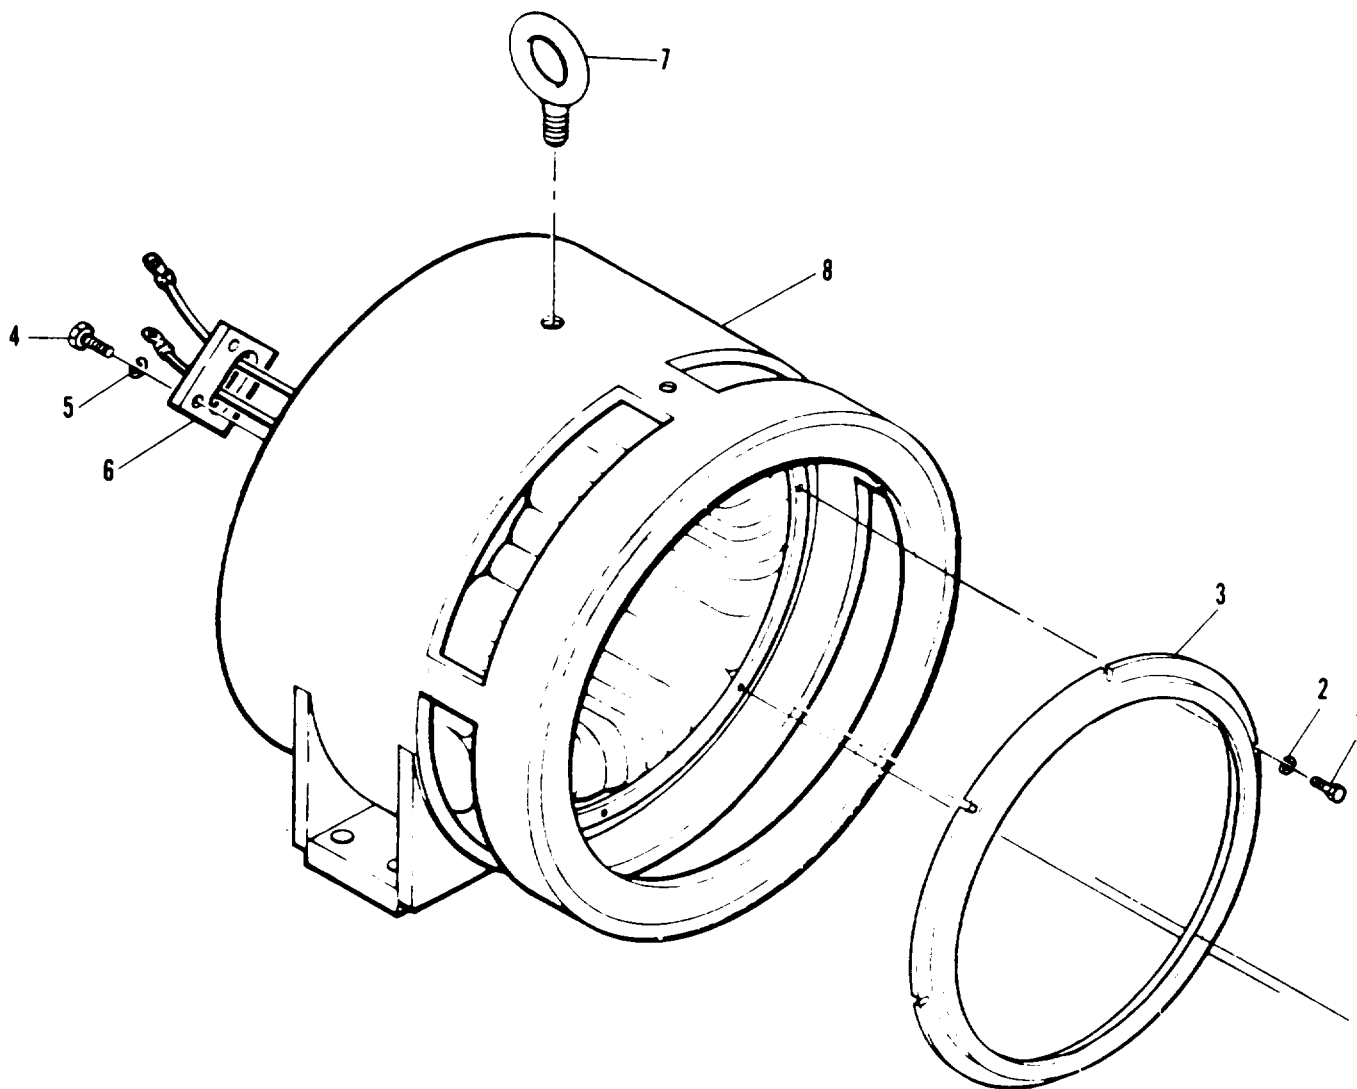

Figure 3-141. Generator Stator Assembly, Exploded View
- (b) Separate pressure plates (4) and blocks (5, 6, and 7).
(31) If inspection reveals damage to stator assembly, disassemble as follows:
- (a) Remove screws (1, figure 3-141) and lockwashers (2) to remove ring (3). (400 Hz generator sets only.)
- (b) Remove screws (4) and lockwashers (5) to remove lead bushing (6).
- (c) Unscrew eye bolt (7) from frame assembly (8).
(1) Assemble stator assembly as follows:
- (a) Screw eye bolt (4, figure 3-141) into frame assembly (5).
- (b) Install lead bushing (3) and secure with lockwashers (2) and screws (1). Torque screws to 17 lbs-ft.
(2) Assemble lead block assembly as follows: